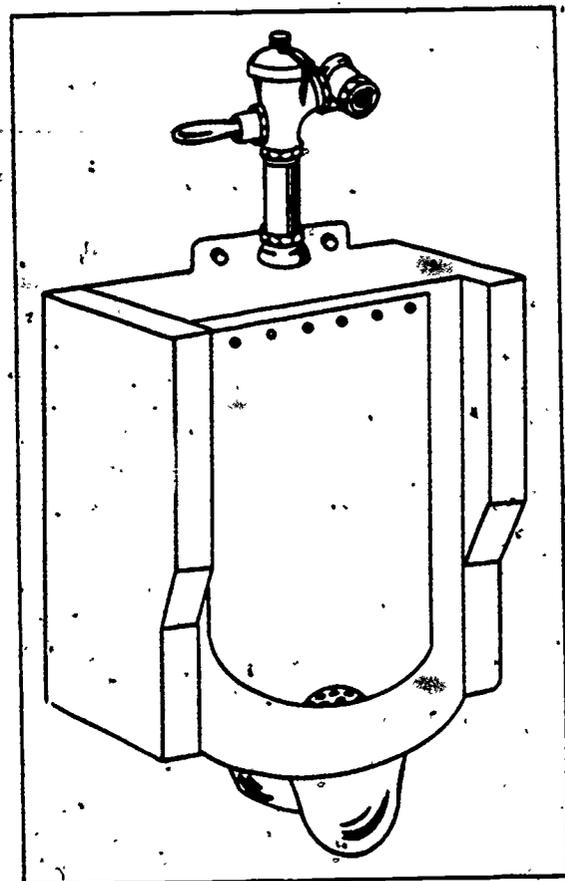

Figure 2-39. Wall-hung urinal.
*Types of urinals.* There are several types of urinals in use. The urinals most extensively used on military installations are the wall-hung and pedestal types. A wall-hung urinal is illustrated in figure 2-39